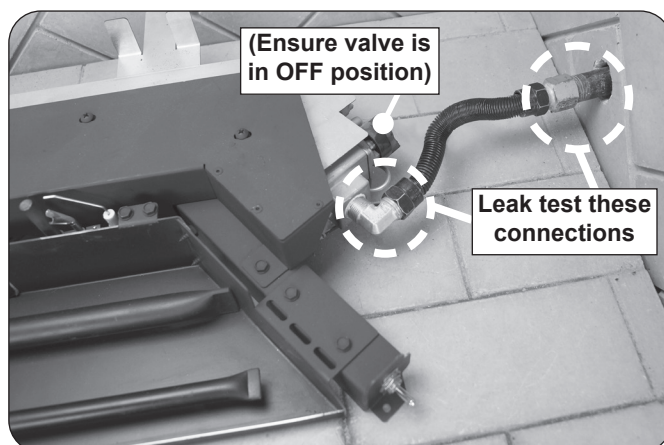

Fig. 14-4 Perform leak test
5. **LEAK TEST:** Make sure the burner valve is in the OFF position. Turn on the fireplace gas supply, and test at all connections for leaks using the appropriate soapy water solution. See Fig. 14-4. If bubbles appear, a leak is present. Turn off the gas and tighten at all connections. Repeat until no leaks are present. If a leak persists, turn off the gas supply and contact the local gas company or dealer. NEVER USE A FLAME TO CHECK FOR LEAKS.